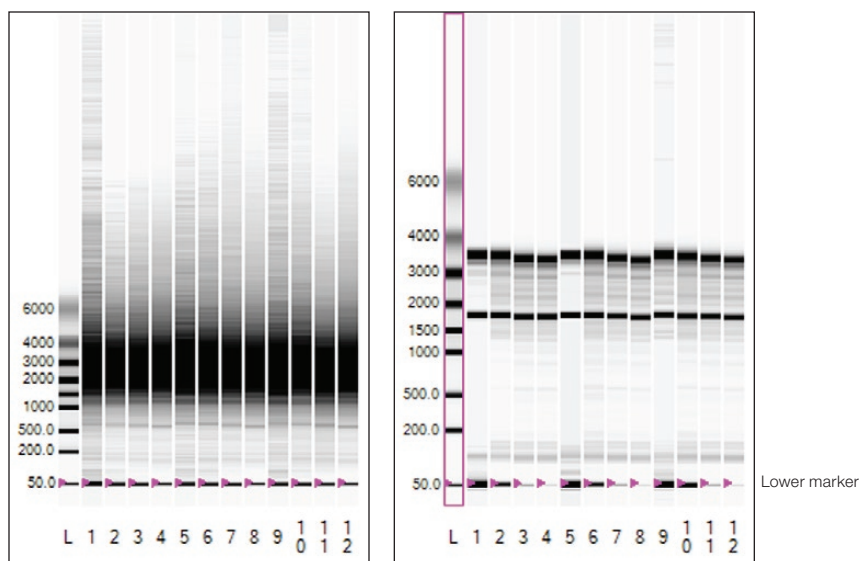

**Fig. A.1.** Electropherogram generated by an Experion RNA HighSens analysis of mRNA. The 18S rRNA peak is identified by Experion software.
As the photodiode detects fluorescent signals from the dye-RNA complexes, Experion software converts the signal into an electropherogram (a plot of fluorescence vs. time). Experion electropherograms generally have the following features (Figure A.1):
- mRNA analyses often yield broad peaks or a smear and, on occasion, contaminating 18S and 28S rRNA peaks (Figure A.1). In addition, mRNA samples require more time for analysis than total RNA samples to ensure inclusion of the population of longer transcripts and to achieve a smooth baseline
To compensate for small variations in each separation, Experion RNA analysis uses an internal 50 bp marker to normalize the migration times among samples. The marker is included in the Experion RNA loading buffer and so is added to each sample and the RNA ladder (Figures A.1–A.3). Inclusion of the marker and the normalization process ensures that the system software properly identifies peaks.